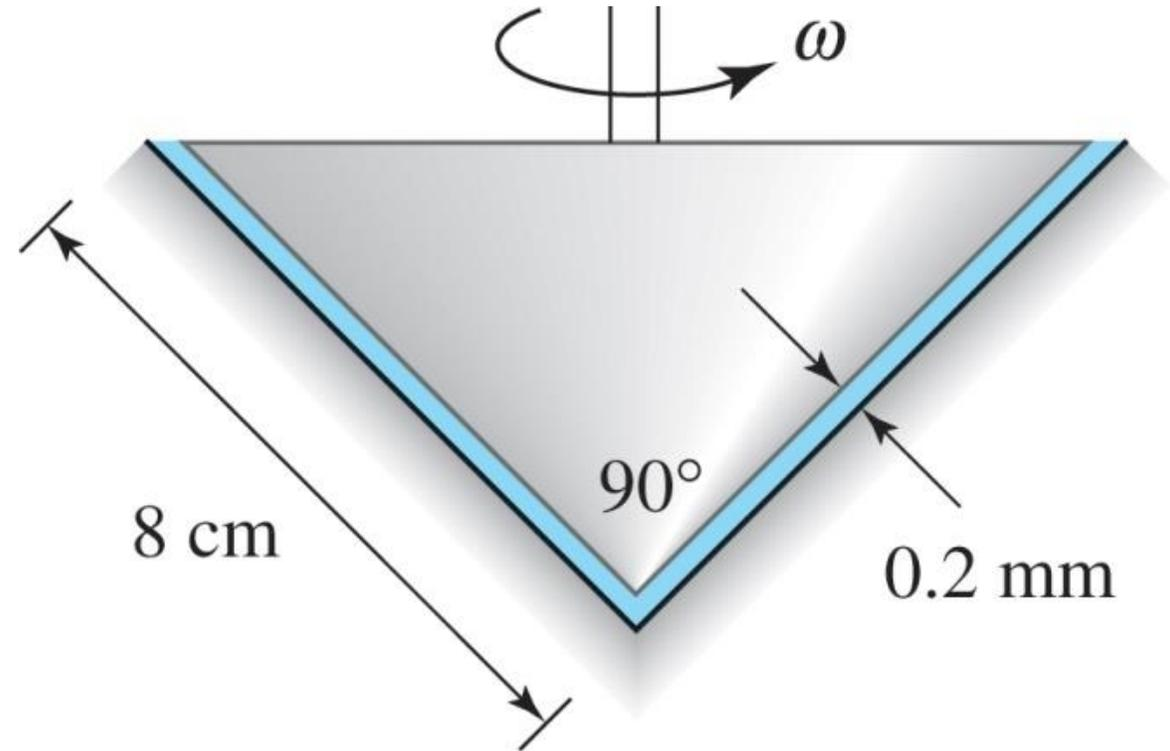

Fig. P1.49
P.1.49. Calculate the torque needed to rotate the cone shown in Figure P1.49 at 2000 rpm if SAE-30 oil at 40°C fills the gap. Assume a linear velocity profile between the cone and the fixed wall.